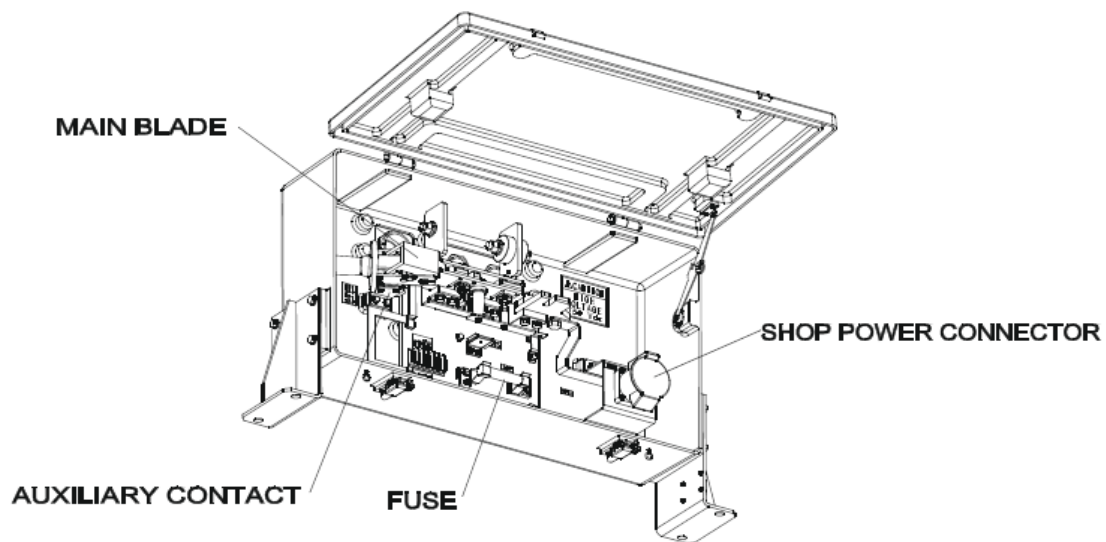

Figure 16: Main Knife Switch
- **Insulation Test** – Perform an insulation test using a megger set at 500 or 1000 Vdc. Ensure the knife switch (Figure 16) or main breaker is in the open position. Connect the megger negative lead to carbody ground and the positive lead to the line side of the main knife switch or circuit breaker. An insulation level sufficient to ensure freedom of tracking, arcing, fire and other electrical hazards shall be achieved and maintained. A minimum level of five (5) megohms is desired for the equipment.